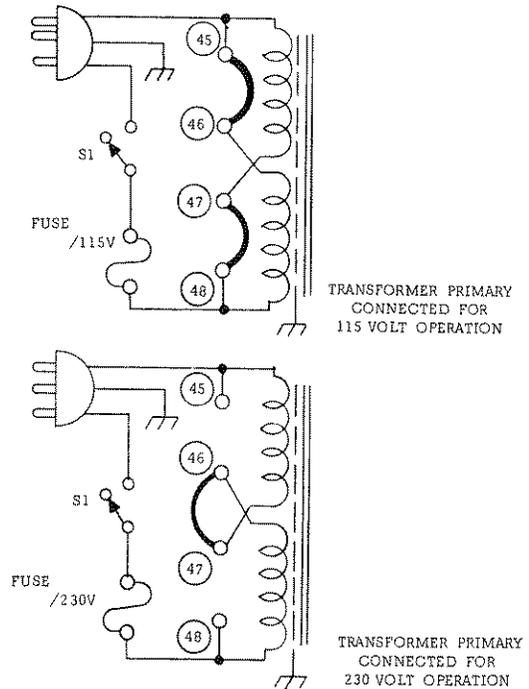

Figure 2-3. Primary Connections
2-17 CONNECTIONS FOR 230 VOLT OPERATION (Figure 2-3)
- b. Break the printed wiring between 45 and 46 and also between 47 and 48 on the printed circuit board. These are shown in Figure 2-3, and are labeled on printed side of the circuit board.